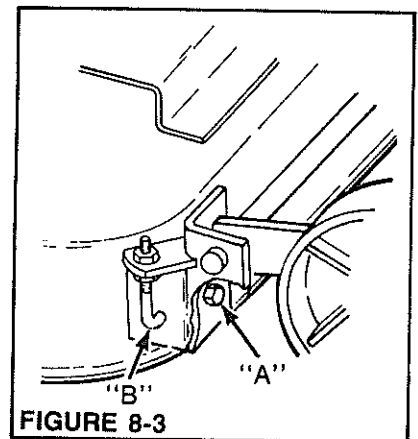

FIGURE 8-3
If side to side leveling is required, an adjustment is provided at the rear left gage wheel. Adjust by loosening screws (A), Figure 8-3 and either lowering or raising "L" rod (B).